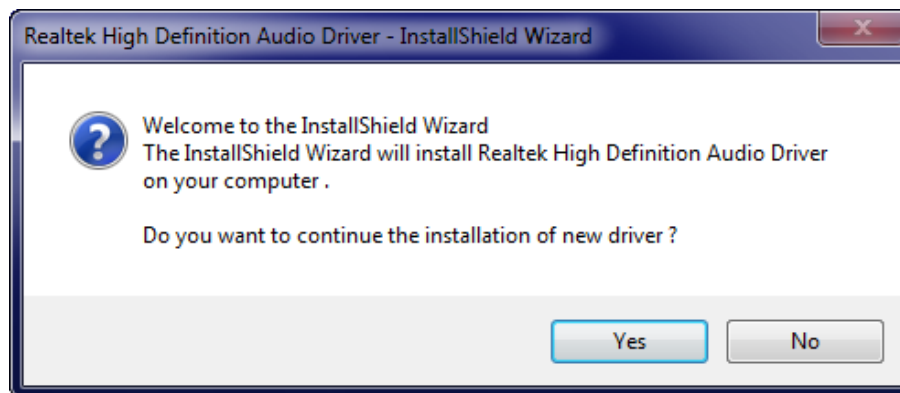

Figure 8-23: Audio Driver Welcome Screen
Step 5: The **Audio Driver Welcome** message in **Figure 8-23** appears.